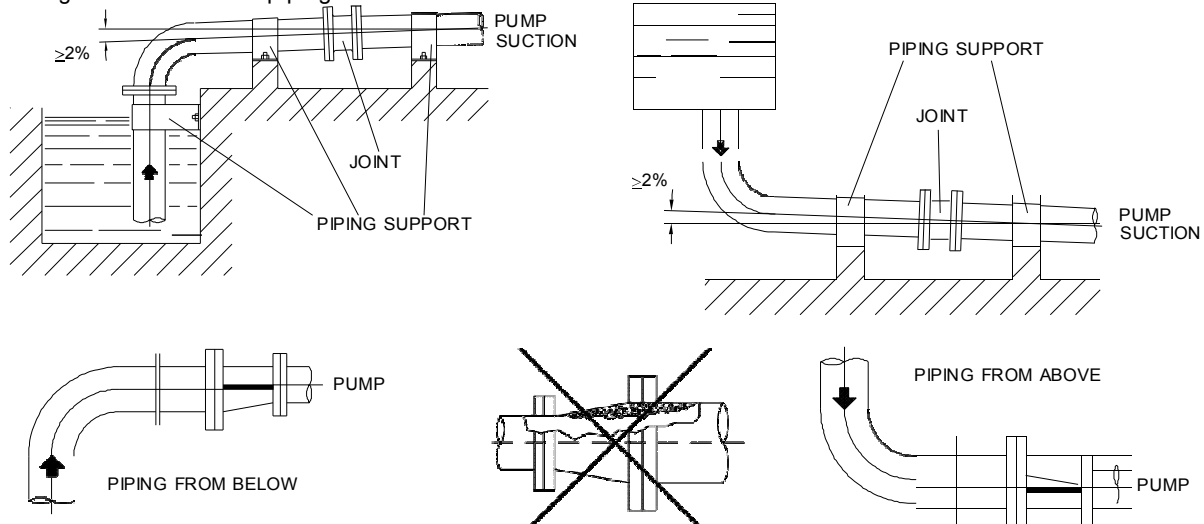

Fig. 12
- SUCTION AND DISCHARGE PIPING (see fig. 12)